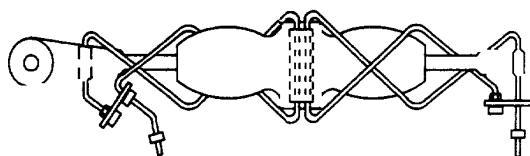

Figure 2-92. Routing of Safety Cable on Turnbuckles
g. Safety Cable on Turnbuckles. The standard procedure for securing turnbuckles with safety cable is shown in figures 2-92 and 2-93.
(1) A self looping safety cable is threaded through the turnbuckle. One end shall be wrapped in one direction around the turnbuckle. The safety cable is then threaded through the hole in the self looping jumper, and terminated with the appropriate application tool.
(2) Safety cable diameter selection for turnbuckle applications, 0.032 inch diameter safety cable shall be used on assemblies where cable diameter is 1/16 inch or smaller, and 0.040 inch diameter safety cable or greater shall be used on turnbuckle cable diameters greater than 1/16 inch.